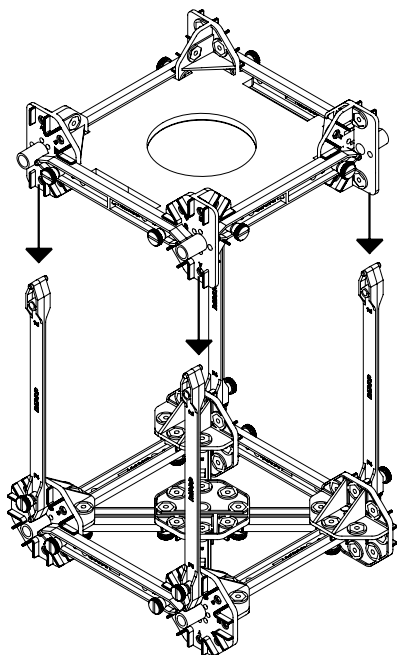

Figure 6: Connecting the ground floor to the first floor.
1. Align the Flat F4 Beams of the ground floor structure with the bottom vertical slots of the half-round connectors on the first floor, as shown in Figure 6.